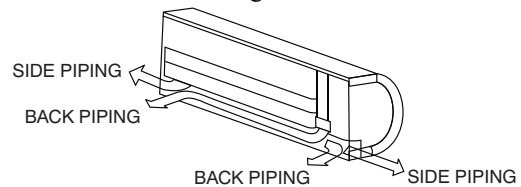

Fig. 9 — Condensate Pipe Routes
- Condensate piping can be routed in one of the four directions shown in Fig. 9.